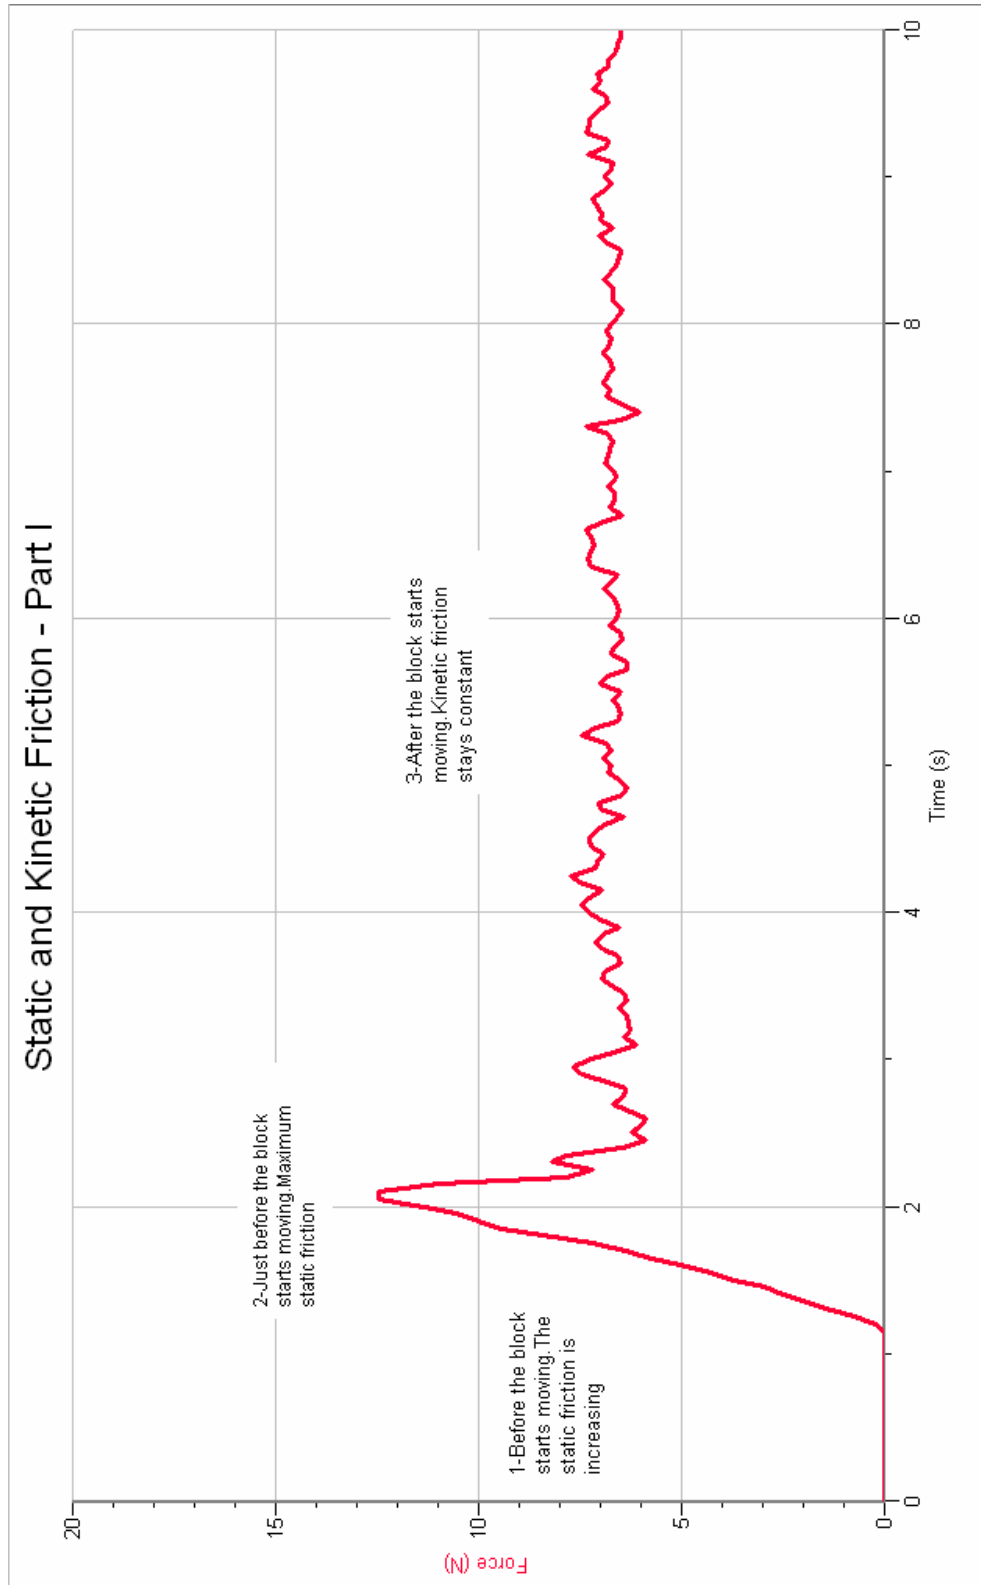

Figure 3 – A sample force-time graph
- 5) Click **Collect** \blacktriangleright and repeat Step 4 for a 10-sec time interval. Your force-time graph should closely resemble Figure 3. If not, then repeat until you get the same behavior.